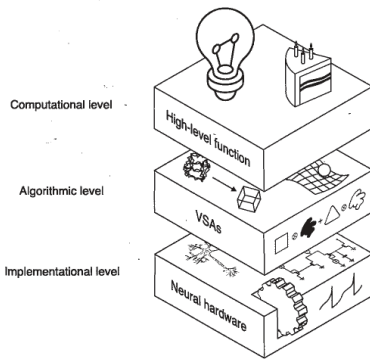

Figure 3. VSAs as the glue between high-level function and low-level neural implementation.
Figure 3: Kinematic characteristics of the speed skating technique. (A) Preextension knee angle (θ_k) and trunk angle (θ_t) in the y-z plane. (B) Take-off angle (ϵ) in the x-z plane [8].
To reduce air resistance, the frontal area should be minimized. This means that your upper body should be horizontal, and on top of that you should sit low. Sitting lower also opens up another advantage: it allows your take-off angle (angle between the blade and the ice just before the end of the take-off, see figure 3) to become smaller; which means you get a longer take-off distance and thus a higher take-off force. Sitting lower also means that you will feel your glutes all the time. But when you train for long enough, you will actually have them.